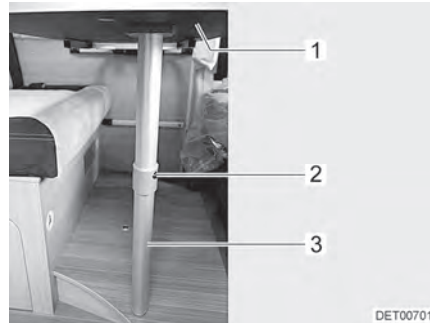

Fig. 57 Bed foundation
- Slightly raise the front of the table top (Fig. 57,1).
- Press the release knob (Fig. 57,2) and fold the lower part of the fold-out leg (Fig. 57,3) by 90°.